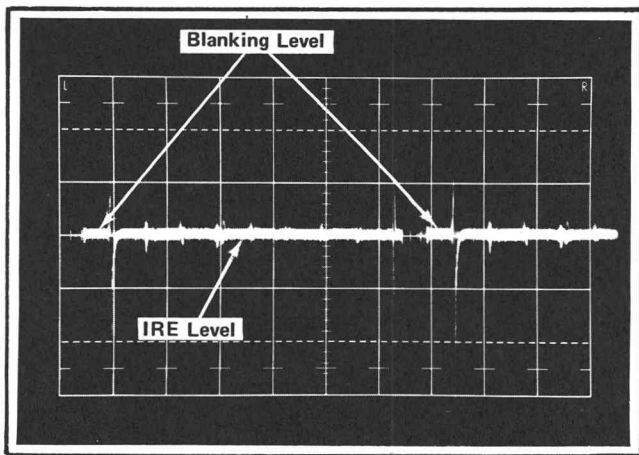

Fig. 5-10. Typical display with IRE level aligned with the blanking level.
g. Observing the test oscilloscope display, rotate the 067-0596-00 calibration fixture V_2 Volts control until the blanking level is aligned with the 10 IRE level line as shown in Fig. 5-10.
v. Using the procedure just described for checking the 10, 20, and 30 IRE LEVEL switch setting and Fig. 5-10, check all remaining settings of the Type R140 MOD STAIRCASE APL/IRE LEVEL switch listed in Table 5-1.